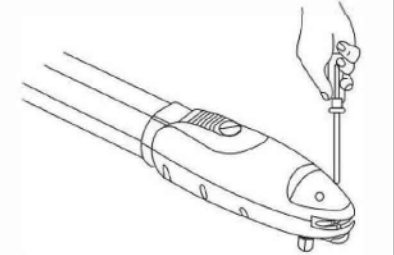

Figure 16
17) Close the gear motor cover by tightening the two screws as shown in Figure 16.